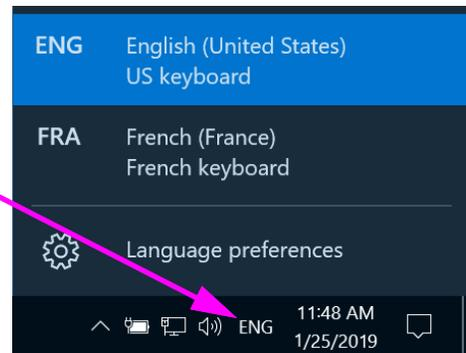

Figure C-21. Drop-Down Language Menu—Welcome Screen (Windows 10)
2. Click the three-letter icon and a menu similar to that shown at the top in Figure C-21 appears.